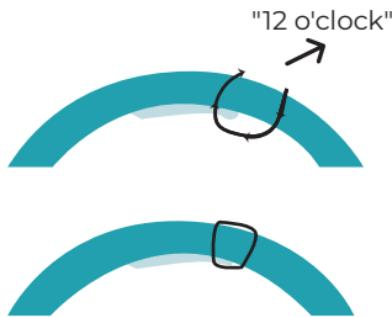

Fig 2. EndoArt® suturing
23. Suture the implant (single suture, nonabsorbable, at exactly 12 O'clock perpendicular to the center, according to Fig. 2). The perpendicular orientation of the suture is important to prevent decentration. The suture will be removed not sooner than 12 weeks from obvious attachment. Recommended removing before 6 months post good attachment.